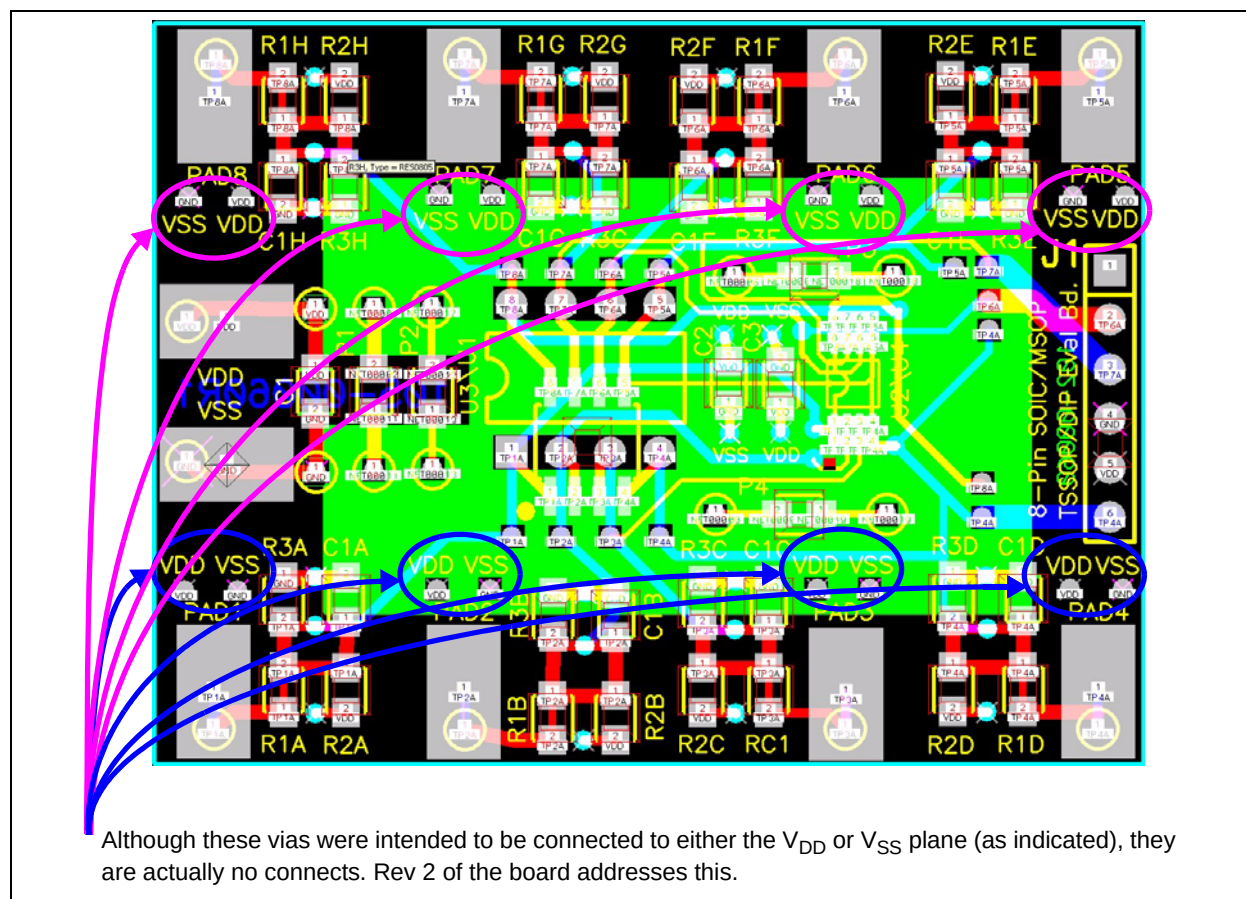
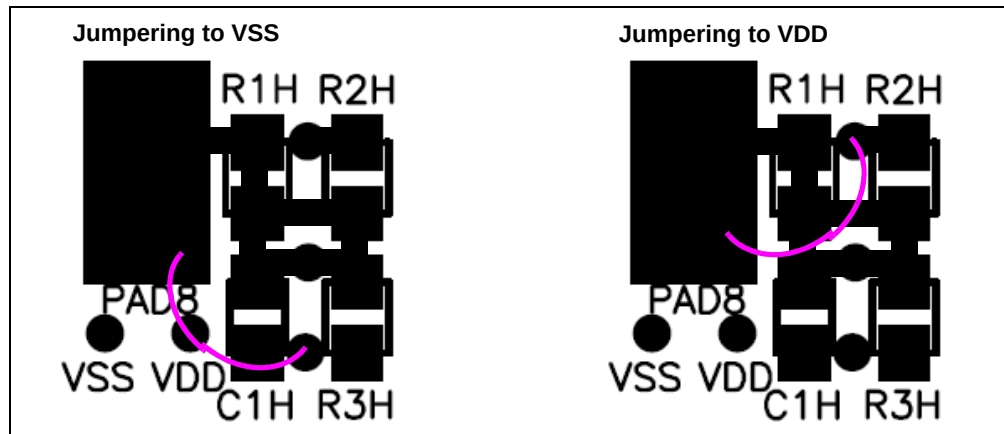

FIGURE D-1: 8-Pin SOIC/MSOP/TSSOP/DIP Evaluation Board Gerber - Top Layer + Silk-Screen.
FIGURE D-3: Alternate Jumpering the PCB pad to either V_{SS} or V_{DD} .
1. VDD and VSS vias near each pad are No Connects (they should have been connected to the appropriate power or ground plane). See Figure D-1 shows the location of these vias that are No Connects. Figure D-3 shows alternate connections that can be made.
Figure D-3 shows how the pad can be connected to either the V_{DD} or V_{SS} plane of the PCB.